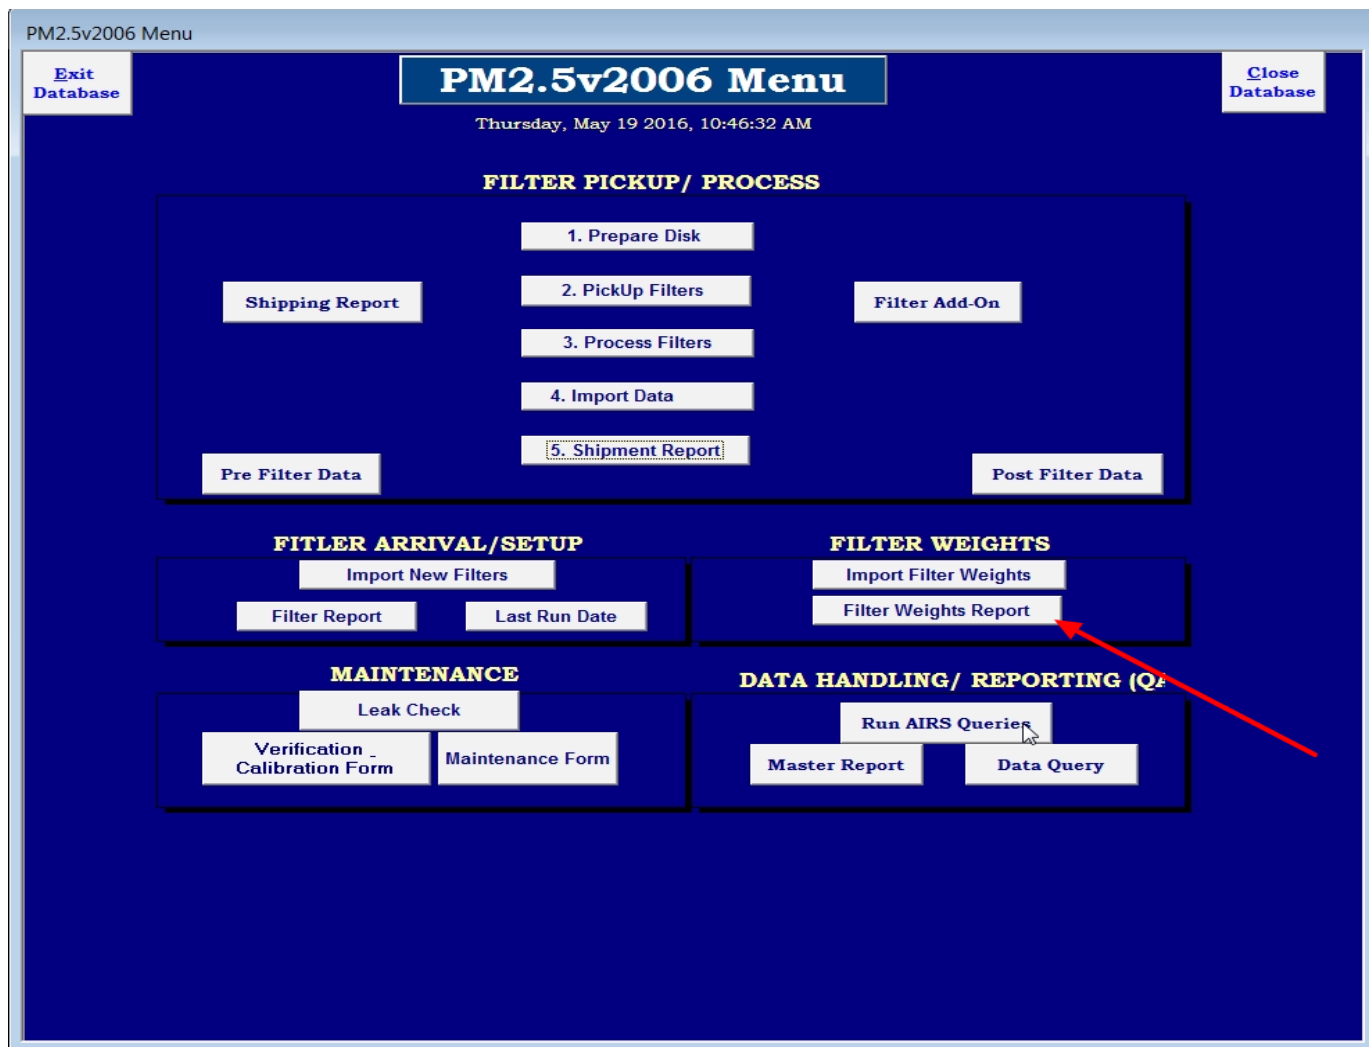
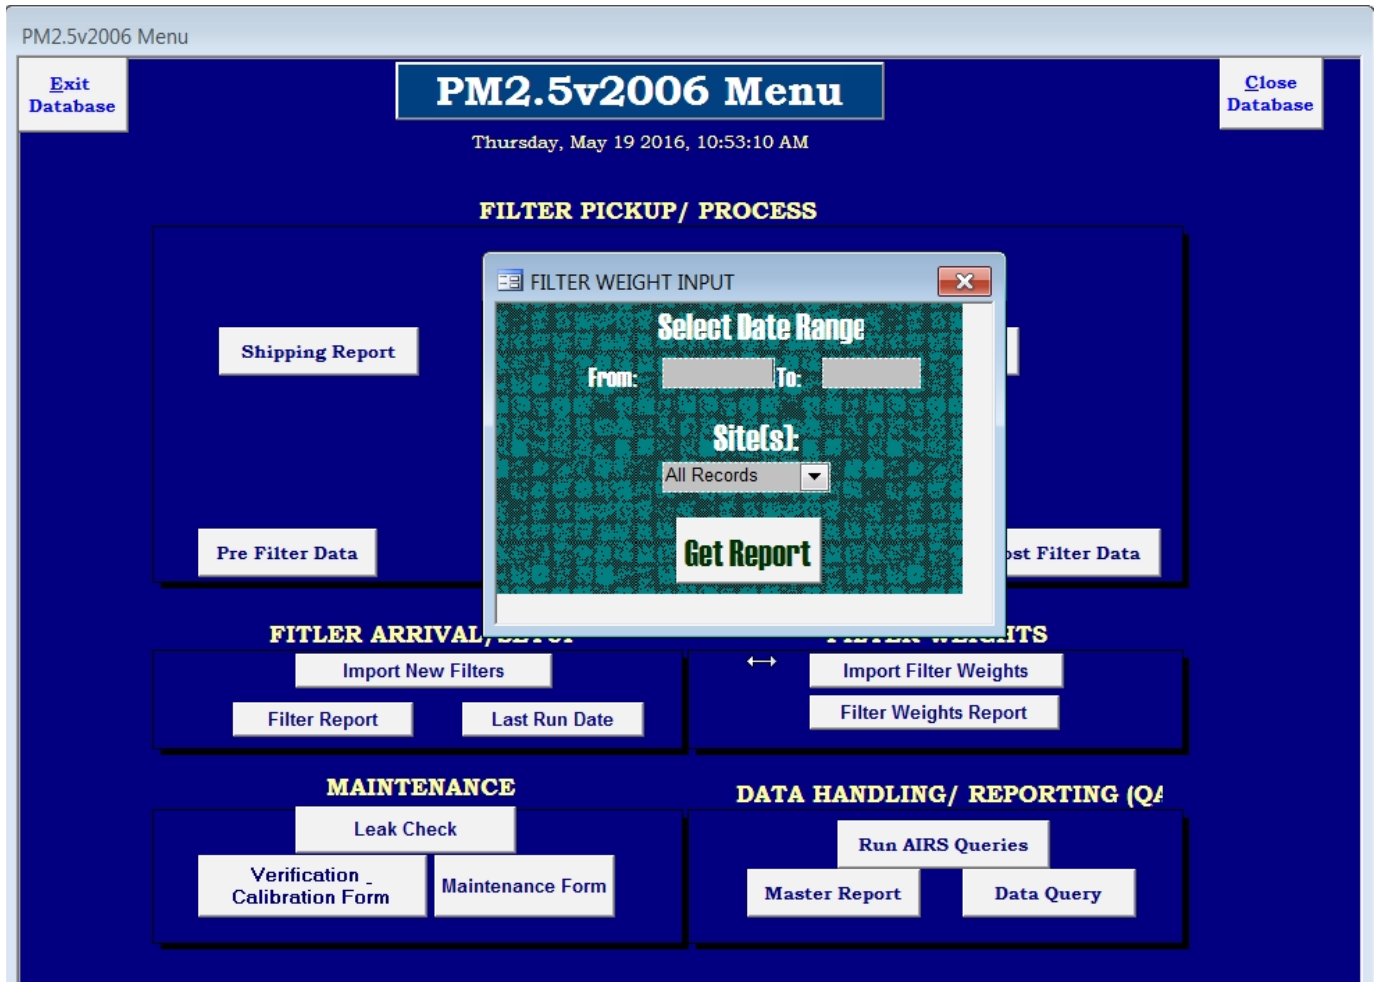

Figure 33: Filters Weights Report Button
Figure 34: Filters Weight Input
6.5.1.6 Once entered, press “Filter Weights Report,” (see Figure 33) and input date range and site(s) (see Figure 34).